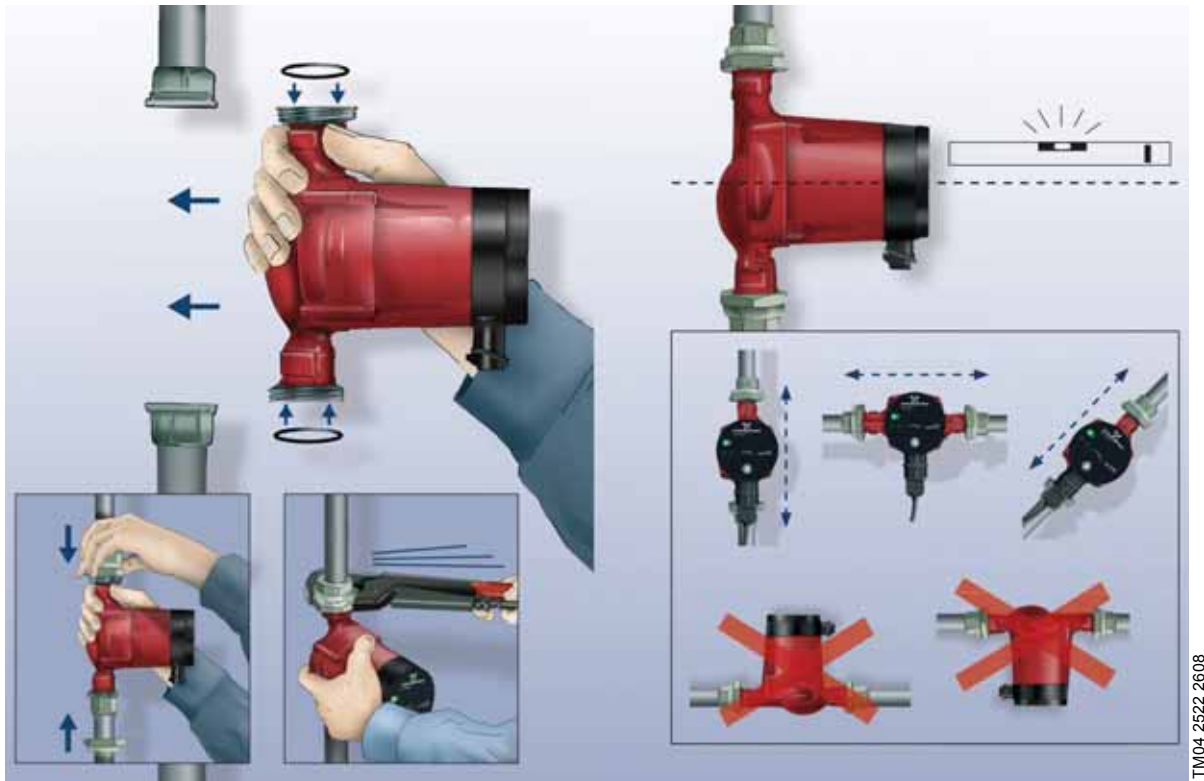

Fig. 3 Mounting the GRUNDFOS ALPHA2 L
1. Fit the two gaskets supplied when the pump is mounted in the pipe. See fig. 3, pos. A.
2. Install the pump with the motor shaft horizontal. See fig. 3, pos. B.